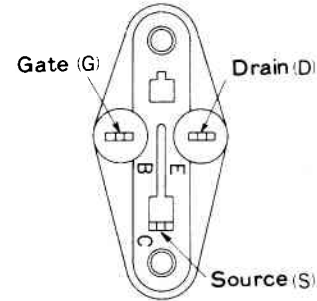

Fig. 5
- (1) When the stabilized power circuit and the peripheral parts of Q701 and Q702 (D706, R752, R753 and their peripheral parts) are replaced, the adjustment of the input/output DC may drift, so be sure to check the input/output/ DC voltage.
- (2) Since  $\text{E}$  grade of hFE is specially classified into  $\text{E1}$  -  $\text{E3}$  for Q701 and Q702, replace them matching the proper grade with the proper channel.
- (3) Since the socket for transistor use is used for the socket of the POWER MOS FET, polarity is indicated as B, C, E. Match it to the indications shown in Fig. 5 when replacing the POWER MOS FET and when checking.